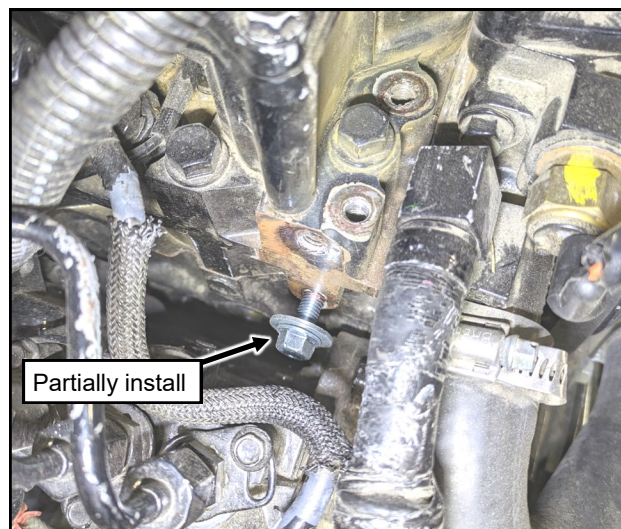

Fig. 1.35 (Partially thread in lower M8x25 screw)
1.35 With a fender washer and supplied red Loctite, partially thread in an M8x1.25 x 25 hex screw into the lower hole shown in Figure 1.35. The screw and washer should be far enough out so the compressor bracket can slide on.